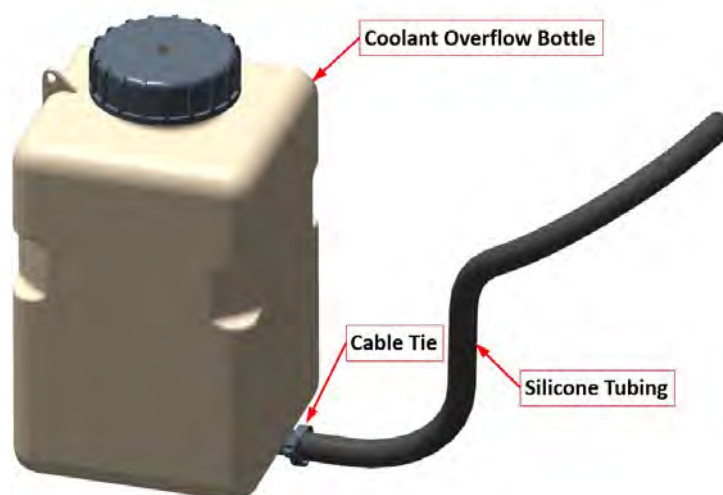

FIGURE 17-36
- a. Cut a 10-inch length of 51135K21 silicone tubing and attach it to the bottom nipple of the bottle. Secure with a TY24MX cable tie as shown in Figure 17-36.